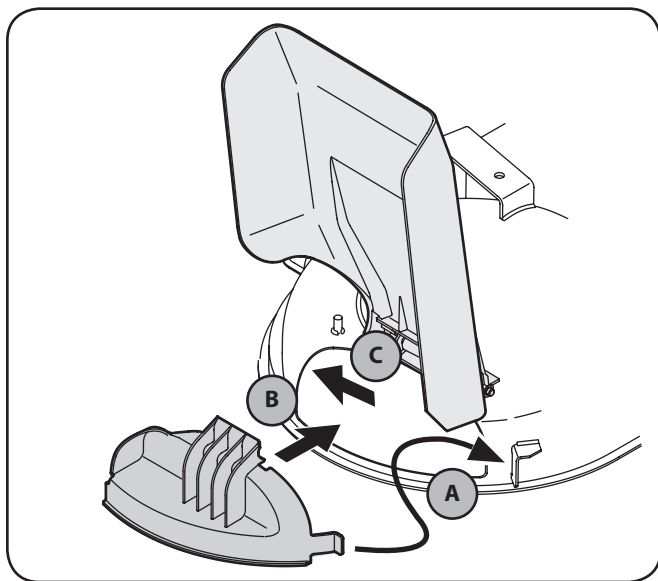

Figure 5-1
1. Insert the right-side tab (A) of the baffle into the bracket on the deck. See Figure 5-1.
2. Insert the mulch baffle into the discharge opening (B), See Figure 5-1.
3. Once it's positioned in the deck opening, push the baffle towards the rear of the mower (C) to secure it in place. See Figure 5-1.